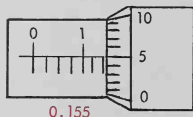

Fig. 10-7. One hundred fifty-five thousandths of an inch (0.155).
3. To read the micrometer, first take the reading on the sleeve and then add to it the reading on the thimble. For example in Fig. 10-7, you can see